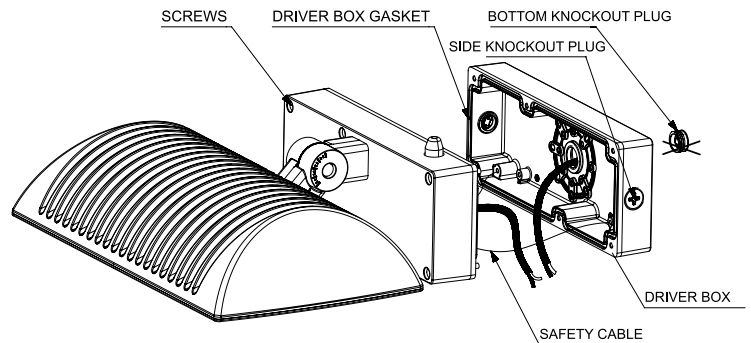

Figure 1
1. Loosen the Screws and open the Driver Box (four screws for 26W and 38W, and six screws for 52W, 80W, 100W). See Figure 1.
Remove the Bottom Knockout Plug and drill appropriate Mounting Holes. Attach the Driver Box to a Recessed Outlet Box (not supplied) with Hardwares (not supplied). See Figure 1 and 2.
Remove a Side Knockout Plug and drill appropriate Mounting Holes. Attach the Driver Box to a Wall with Hardwares (not supplied). See Figure 1 and 2.